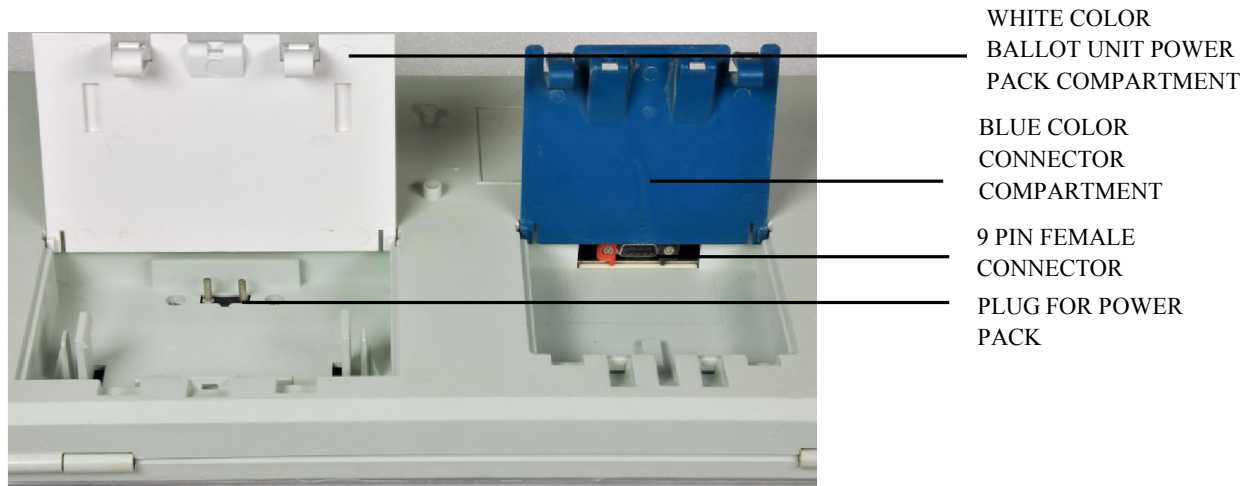

Fig.6 Rear view of Ballot Unit
17. The rear side of Ballot Unit is having two compartments. The blue color compartment is for the interconnecting Ballot Units and the white color compartment is for insert Power Pack which is shown in (Fig. 6). Power packs are inserted in 05,09,13,17 & 21Bus IF 24 BUs are connected to a CU.